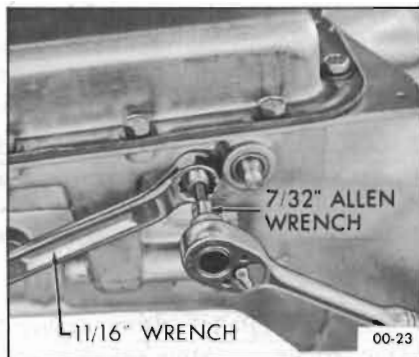

Figure 00-23—Backing Off Low Band Screw
2. Back off adjusting screw four (4) turns and lock nut. See Figure 00-23.